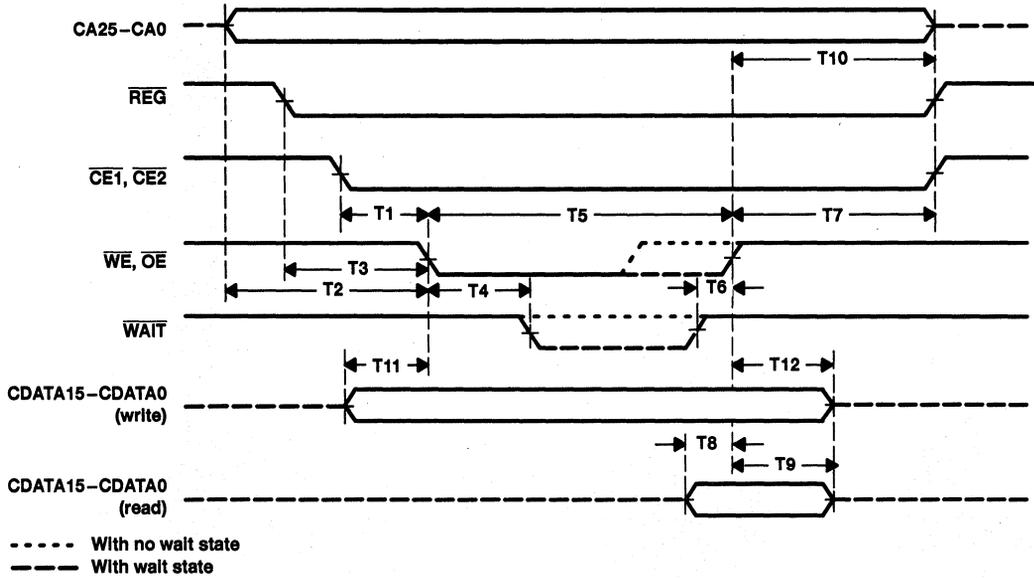

Figure 8. PC Card Memory Cycle
**timing requirements over recommended ranges of supply voltage and operating free-air temperature, memory cycles (for 100-ns common memory) (see Note 6 and Figure 8)**